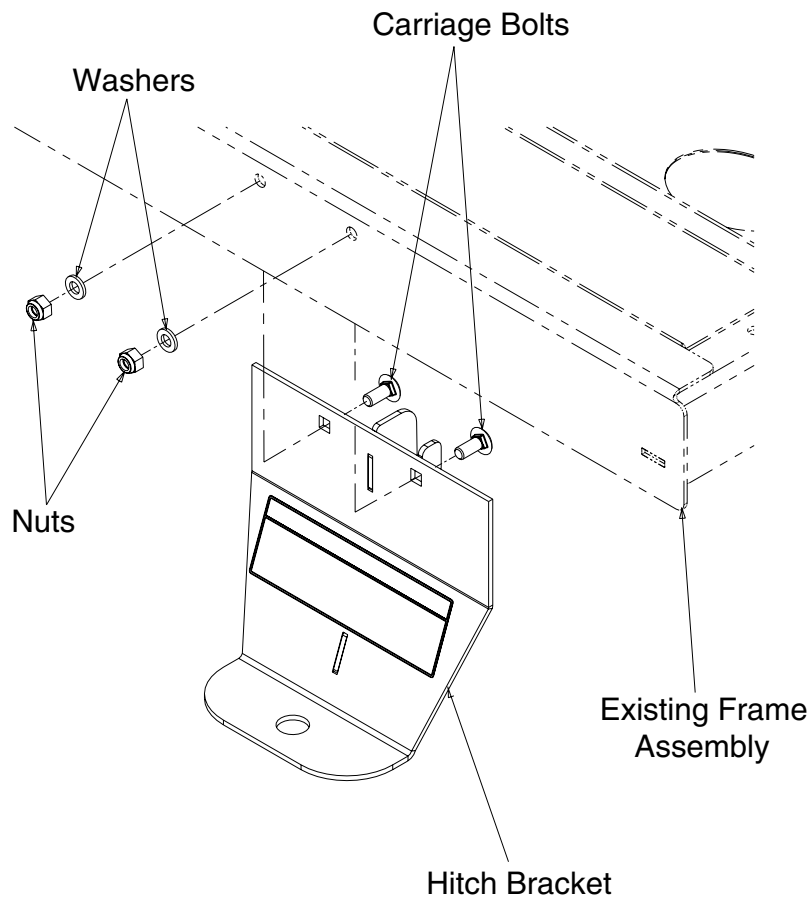

Figure 1
Figure 1 and Parts List
2. Fasten Hitch Ref. 4 (02002579) to existing Frame Assembly using carriage bolts 5/16-18 x .75, washers and 5/16-18 nylock nuts. See Figure 1 below.